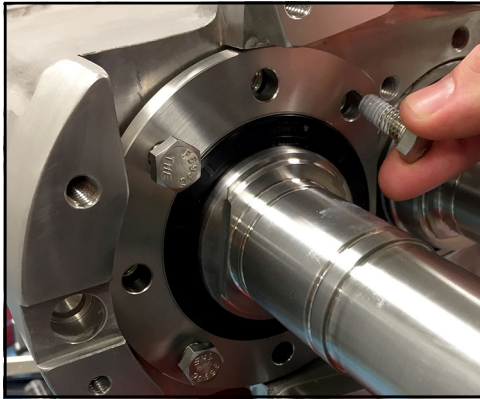

Figure 264 - Loosen and remove bearing retainer bolts
3. Loosen and remove the bearing retainer bolts as shown in Figure 264.